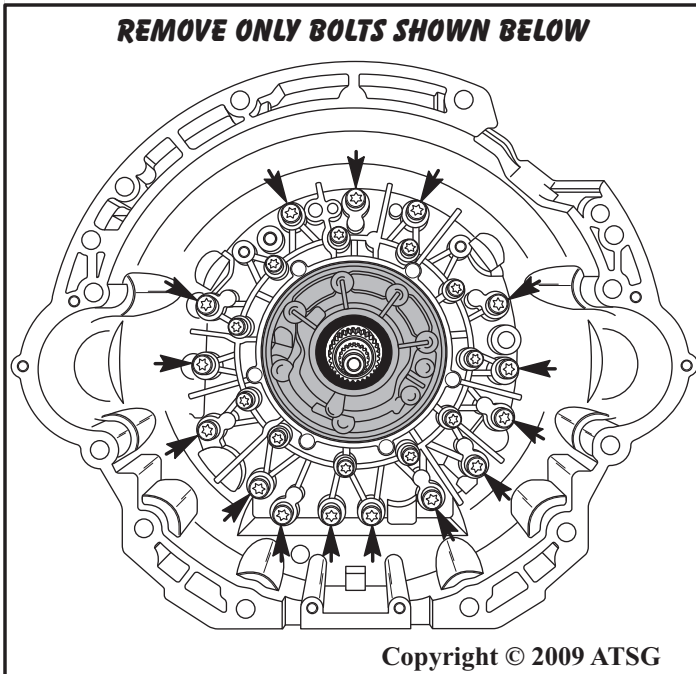

Figure 49
26. Remove the remaining 15 converter housing to case bolts from inside the converter housing, as shown in Figure 49 and 50, using 40 Torx bit.
- Note: Do not remove the circle of 30 Torx bolts shown in Figure 49. This is easier done in component rebuild.**